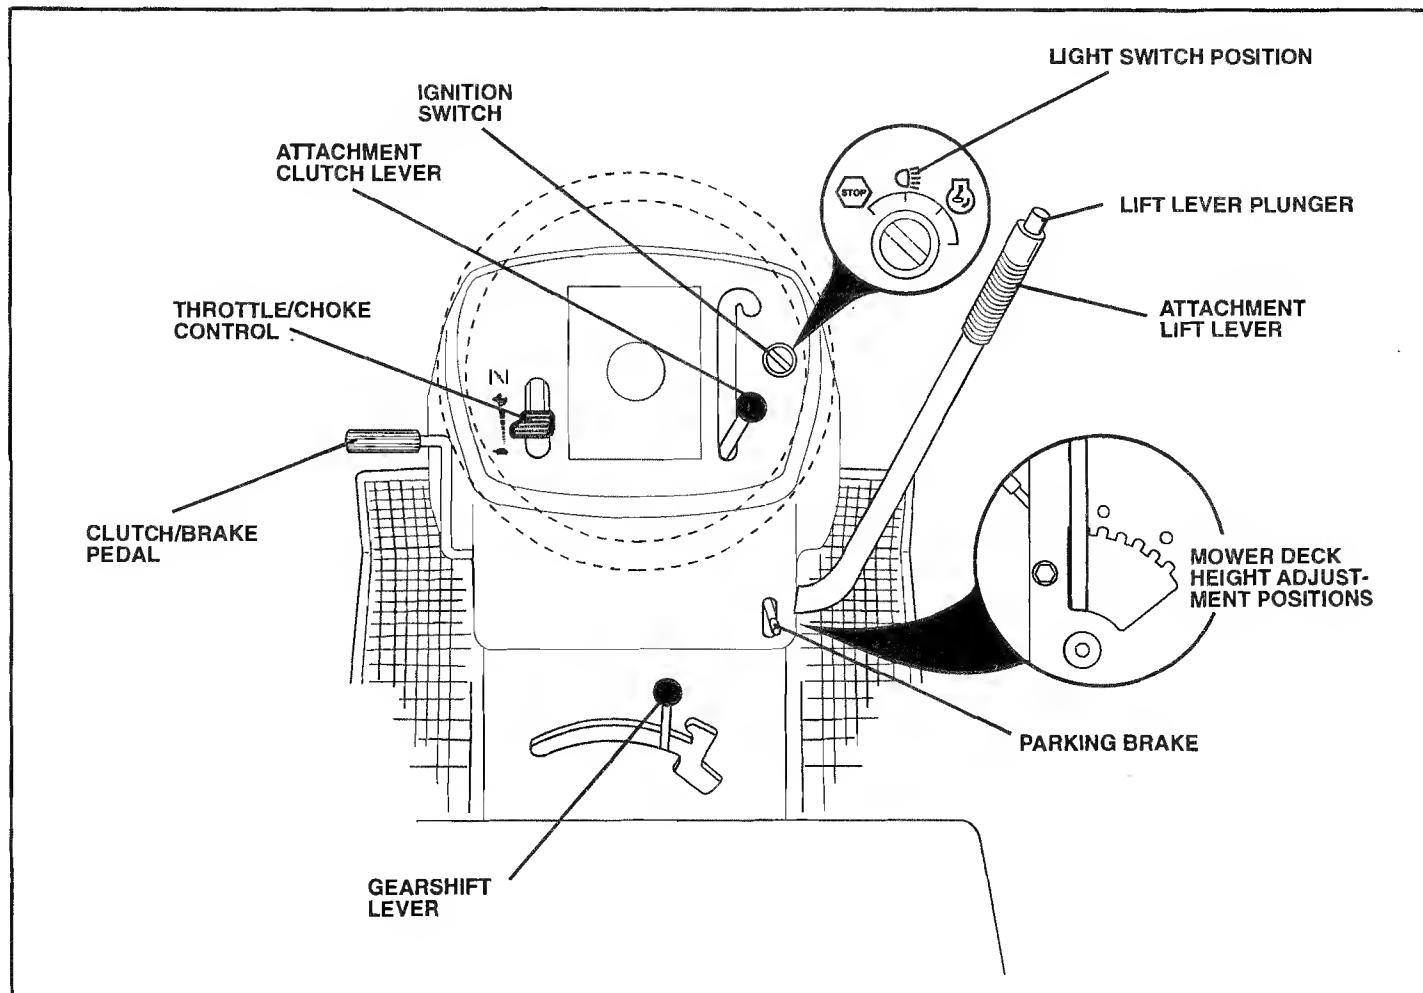

FIG. 4
- Slide seat until a comfortable position is reached which allows you to press clutch/brake pedal all the way down (See Fig. 4).